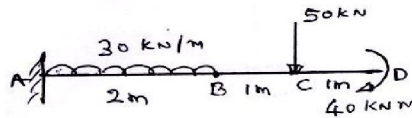

Fig. Q5 (b)
- b. Draw shear force diagram and bending moment diagram for the Cantilever beam shown in Fig. Q5 (b). (10 Marks)